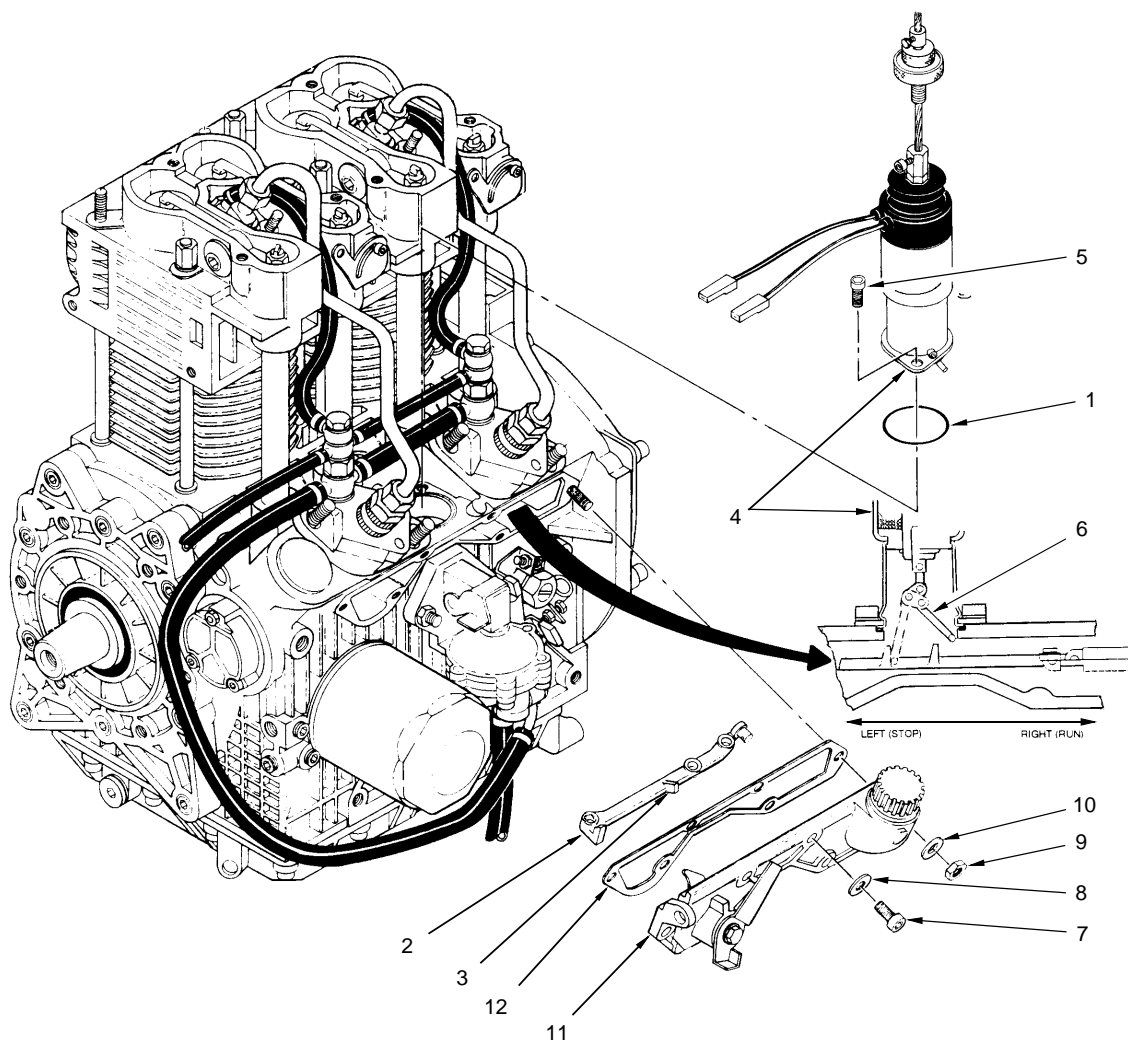

Figure 28. Fuel Flow Solenoid Installation
**INSTALL FUEL FLOW SOLENOID** (Refer to Figure 28.)